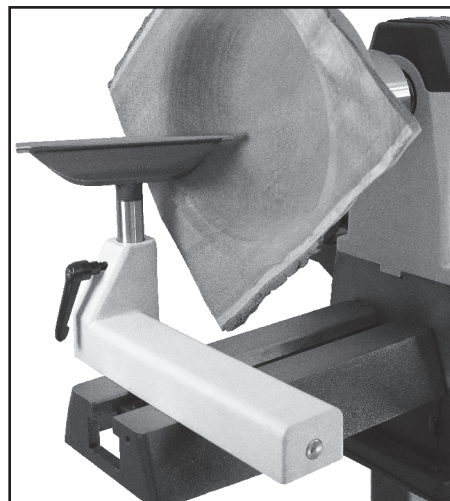

FIG. 9
- **#70-903** The mounting of the 13-1/2" Bed Extension will expand the lathe's swing from 12" over the lathe bed, to 15" over this outboard extension bed. FIG. 9.
With the optional #70-903 13-1/2" Extension mounted on the left, outboard end of the lathe (FIG. 9 & 11), faceplates or chucks can be mounted on the outboard end of the spindle. This end has the same 1-1/4" x 8TPI RH threading as the inboard spindle end. For outboard turning, the spindle needs to rotate in the REVERSE direction. For turning: